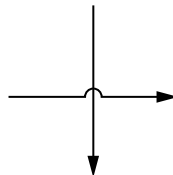

Figure 5.7 Inputs and outputs pass over or under one another.
4. Arrows representing inputs or outputs should pass over or under one another, rather than intersect (Figure 5.7).